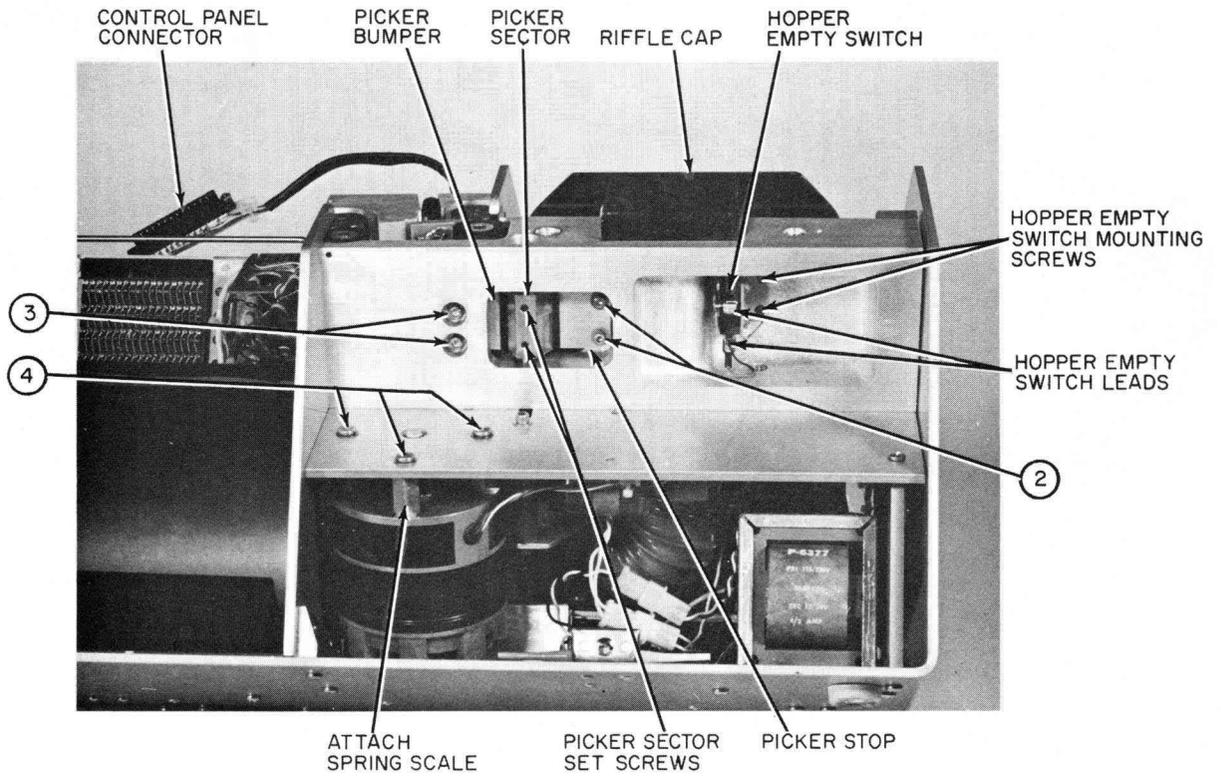

Figure 22. Partial Front View, Cover Removed
2. Lift top cover sufficiently to reveal the control panel connector, figure 22, and disconnect the control panel connector. The top cover may now be removed.
3. Using a 3/32 Allen wrench, remove two socket head screws holding raffle cap, figure 22.
4. Remove two leads from hopper empty switch, figure 22.
5. Using a 1/16 Allen wrench, remove two button head screws holding switch, figure 22.
2. Using a 5/64 Allen wrench, LOOSEN two 6 x 32 socket head screws (2) holding picker stop, Figure 22.
4. Using a 9/64 Allen wrench, LOOSEN the two 8 x 32 socket head screws (3) retaining the picker bumper, Figure 22.
2. Using a Phillips screwdriver, LOOSEN three main drive motor mounting screws (4), figure 22.
3. Attach a 32-ounce spring scale with a round hook end to the front main drive motor standoff, figure 22.
7. Remove hopper empty switch leads, figure 22.
2. Using a Phillips screwdriver, remove three main drive motor mounting screws (4), figure 22. If the belt was not broken, there should now be sufficient slack to slip the belt over the motor pulley and remove the motor.